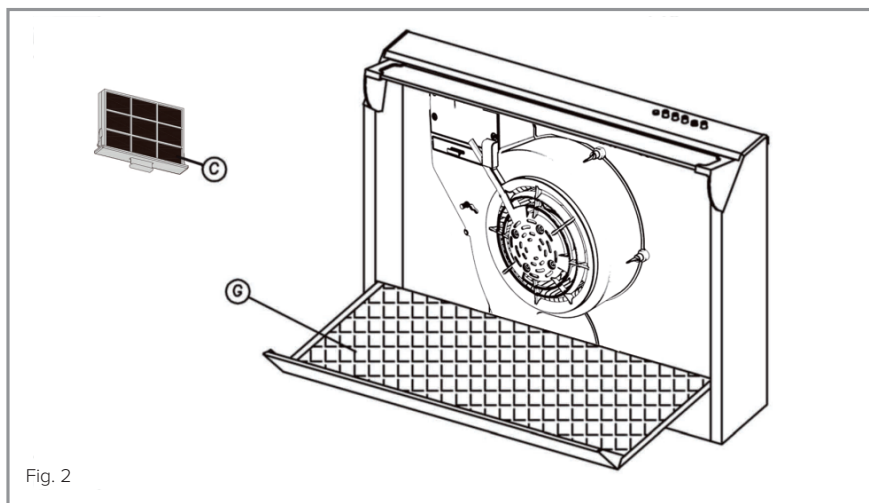

Fig. 2
- Remove the wire filter clip then lift out the grease filter itself (shown as “G” in figure 2).